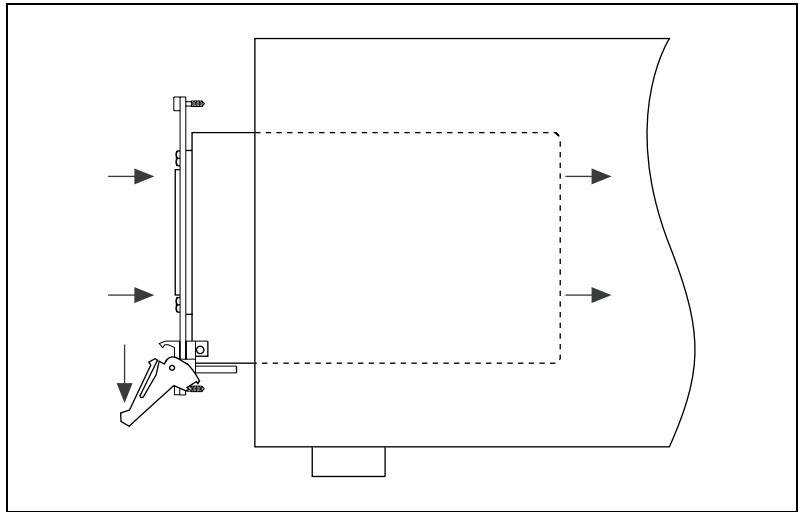
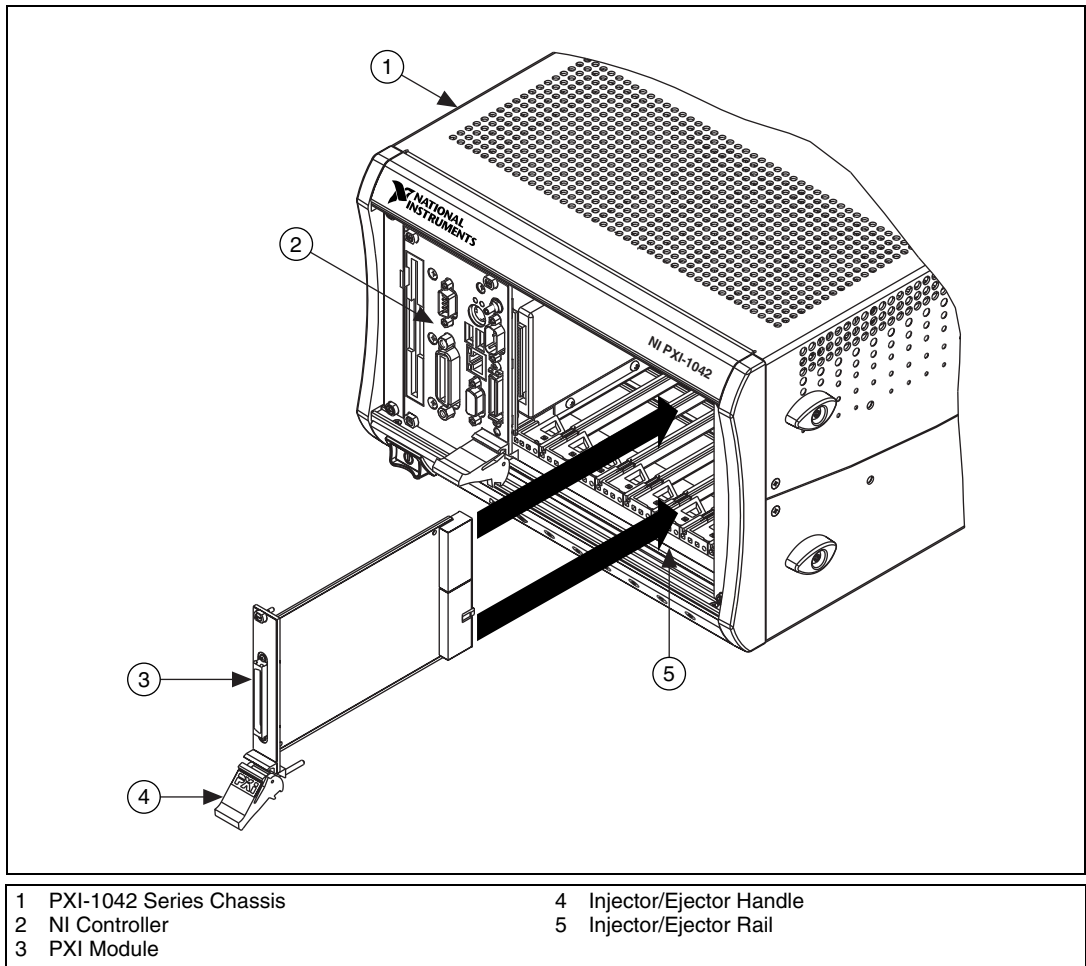

Figure 2-2. Injector/Ejector Handle Position during Controller Insertion
Figure 2-4. Installing PXI or CompactPCI Modules
2. Install the controller into the system controller slot (red card guides) by first placing the controller edges into the front controller guides (top and bottom). Slide the controller to the rear of the chassis (making sure that the injector/ejector handle is pushed down as shown in Figure 2-2).
1. Install a module into a chassis slot by first placing the module card edges into the front module guides (top and bottom), as shown in Figure 2-4. Slide the module to the rear of the chassis, making sure that the injector/ejector handle is pushed down as shown in Figure 2-2.